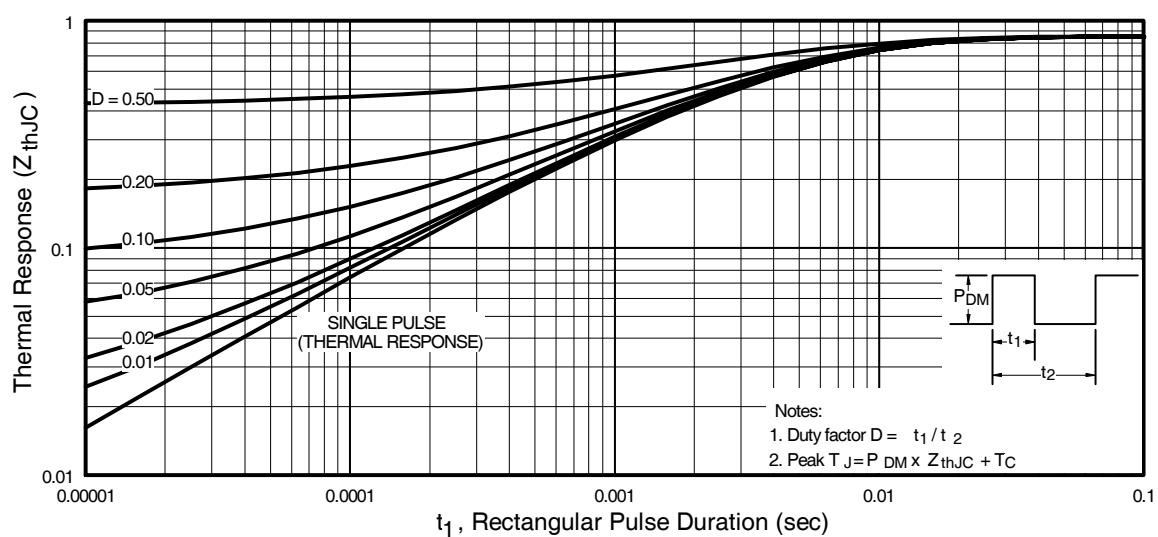

Fig 11. Maximum Effective Transient Thermal Impedance, Junction-to-Case
- ① Repetitive rating; pulse width limited by max. junction temperature. (See fig. 11)
- ② Starting $T_J = 25^\circ\text{C}$, $L = 270\mu\text{H}$